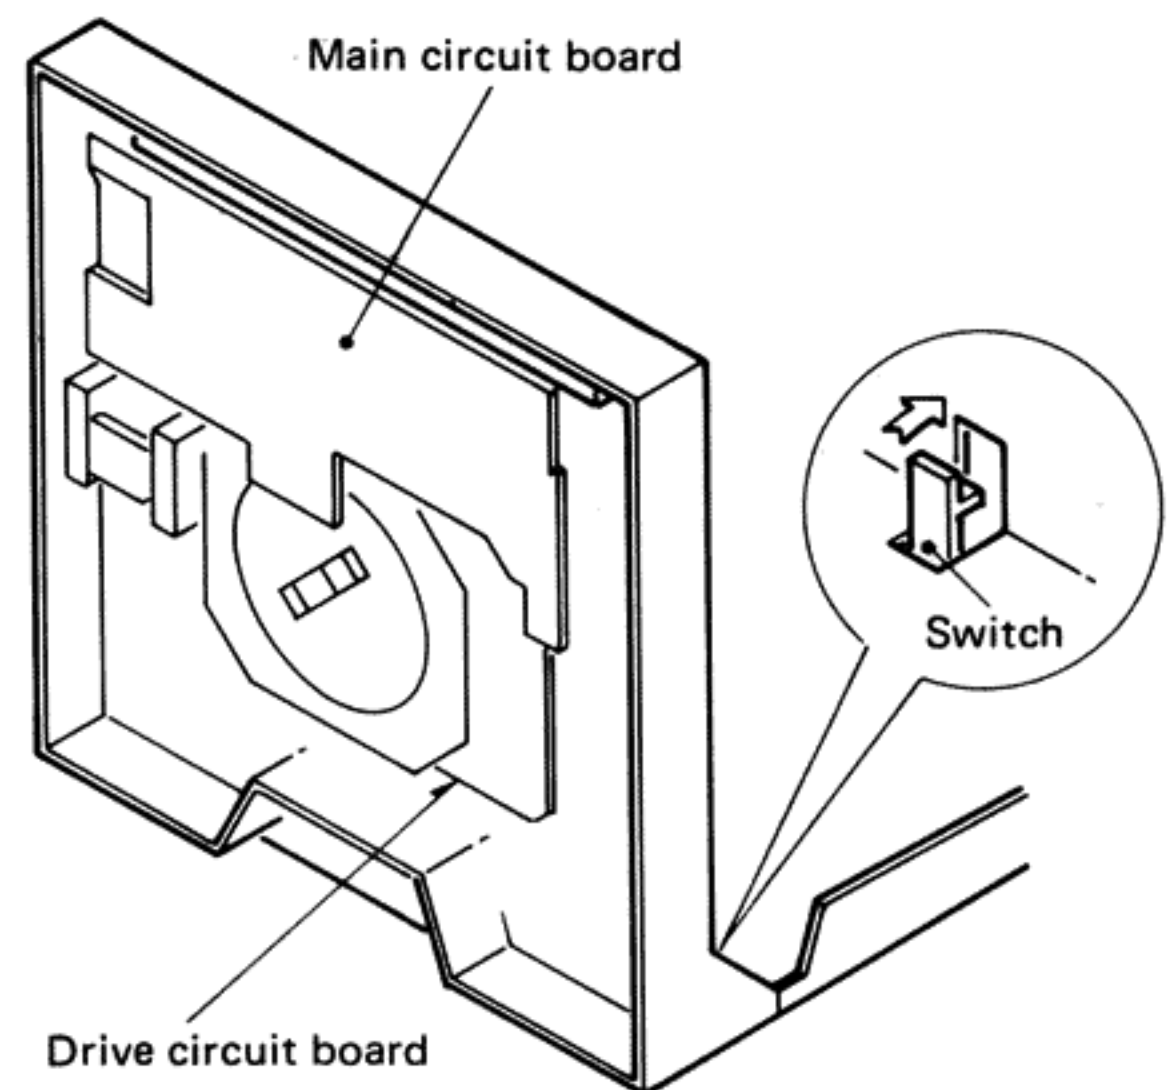

Fig. 22
2. How to raise the unit (Fig. 22)